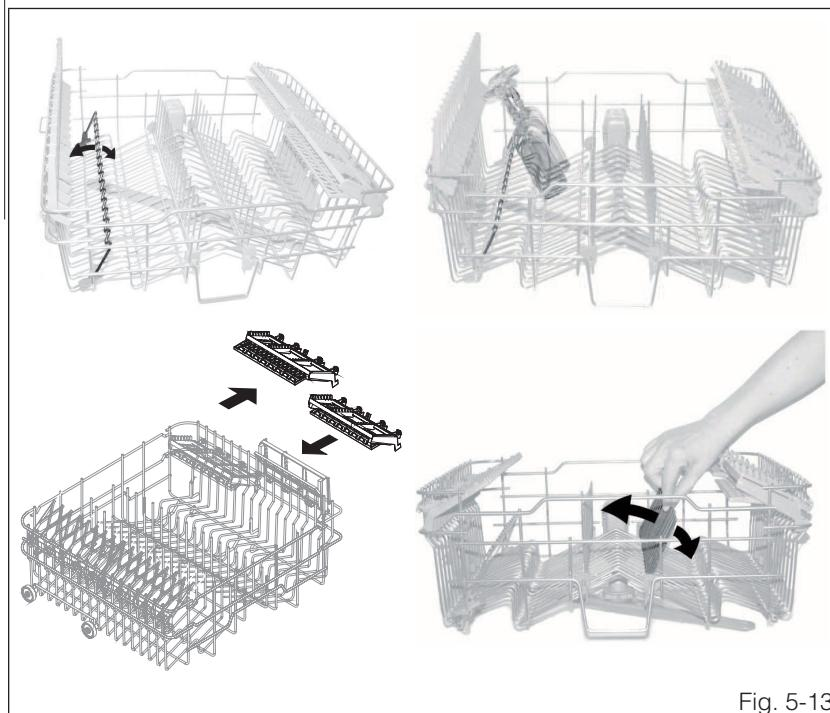

Fig. 5-13
5.4.3 Upper rack (see fig. 5-13)